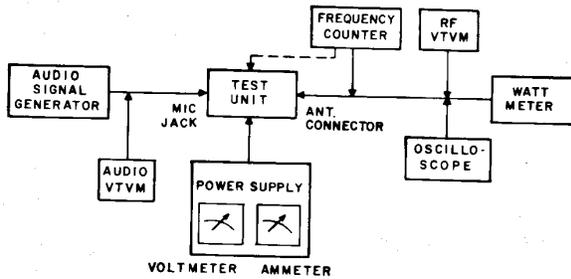

Figure 2 – Test Equipment Hook-Up
in the block diagram below, Figure 2. To activate the transmitter without using the microphone, use
- Adjust L106 for maximum reading on the RF wattmeter. See Figure 2.
(Note: – May be read on bench supply ammeter if used, see Figure 2)
- c. Adjust RV-102 to obtain 90% modulation, as observed on the scope, see Figure 2.